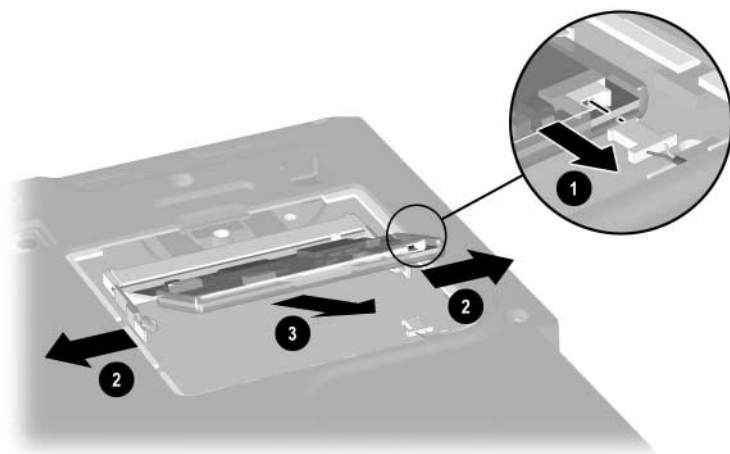

Figure 5-11. Removing a Mini PCI Communications Board
6. Disconnect the modem cable from the modem board ❶ (Figure 5-11).